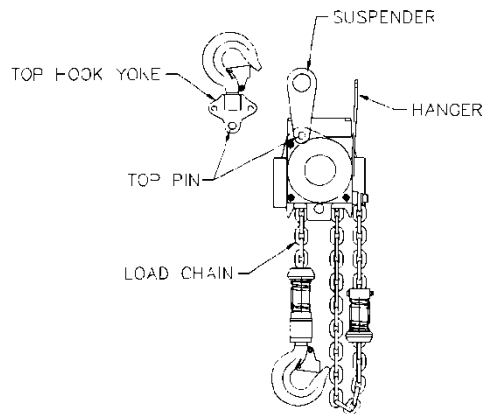

Figure 3-22 Installing Suspender on single fall hoists TCR/S/L250P, 500P, 3000P, and TCK3000
- 1) Refer to **Figure 3-22**.
- a. **CAUTION** Ensure Suspender P is mounted in the same hole position that the hook was located. Position #1 is for single fall models (001 and 003) and position #2 is for double fall models (005).
For Single fall hoists (*TCR/S/L250P, *500P, 1000P, 3000P, TCK/L3000) - Refer to **Figure 3-22**.